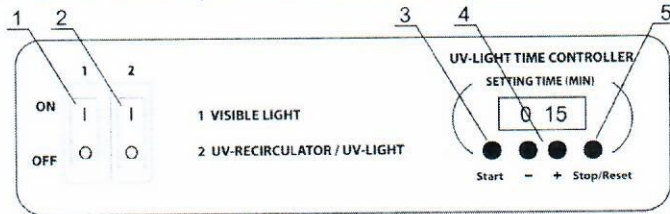
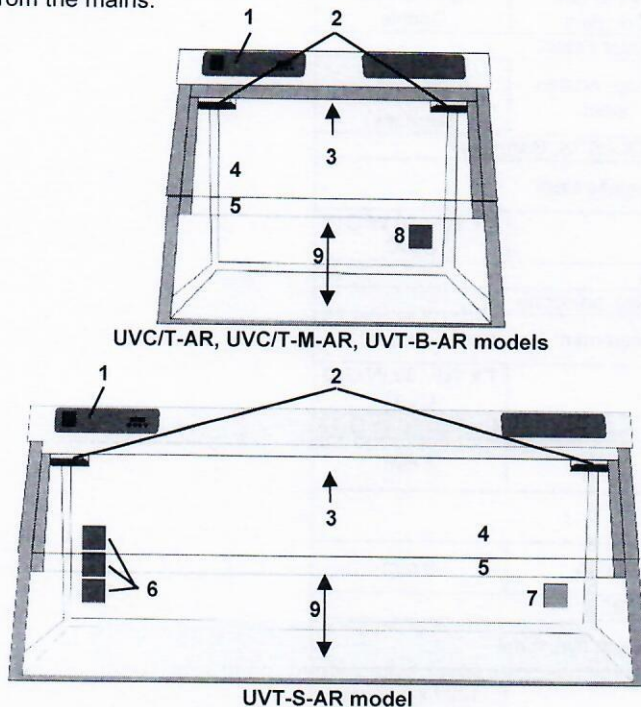

Fig. 2. Control panel
Fig. 3. DNA/RNA UV box, frontal view:
Caution! The open UV lamp inside the unit (fig. 3/3) operates only when the front protective screen is fully lowered. Any operations under direct UV radiation is forbidden!
5.2.1. Turn ON the switch 2 (fig. 2/2) on the control panel (fig. 3/1). This switches on the UV recirculator inside the unit (fig. 3/2) and the open UV lamp exposition time controller. The UV recirculator will operate all the time until the switch 2 is turned OFF.
5.2.2. Use the timer + and - keys (fig. 2/4) to increase and decrease the time (UV-LIGHT TIME CONTROLLER) of direct UV light exposition of the working place, with 1 min increment. Pressing down and holding the button for more than 2 seconds increases the increment.
5.2.3. Press the **Start** key (fig. 2/3), the UV lamp will be turned on automatically and the timer will start counting the exposition time. Timer indicator shows actual time: until 1 hour - in minutes and seconds (mm:ss), after 1 hour - in hours and minutes (hh:mm). After reaching the set time the timer will automatically turn off the open UV lamp.
5.2.4. The open UV lamp can be switched off by pressing the **Stop/Reset** key (fig. 2/5). The set time of exposition will be saved in the memory. The set time will not be saved after the complete turning off the unit.
5.3.1. Turn ON switch 1 (fig. 2/1) for lighting of the working place. This turns ON the luminescent (visible light) lamp inside the cabinet (fig. 3/3).
5.3.2. Lift the front protective screen (fig. 3/5) up for work in the cabinet. The opening height is up to 180 mm (fig. 3/9).
Note. Do not block recirculator openings (fig. 3/2).
- 5.3.3. To use electric devices inside the cabinet, pull their power cable through the inlet and close the flap (fig. 3/7 and 3/8, models with cable inlet) or connect the power cable to a built-in mains socket (fig. 3/6 and 3/8, models with mains socket).